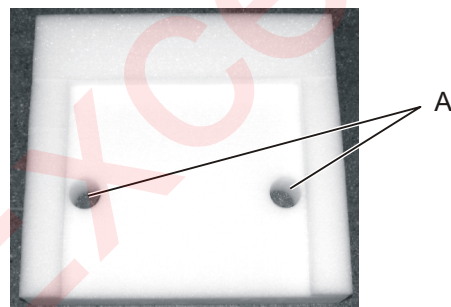

Figure 190: Shock absorbing buffers
Shock absorbing foam packaging bags are placed at all sides between the laser device and the rigid transport packaging. The base pallet has two shock absorbing buffers (see Figure 190). The laser device feet are placed in the locating holes (A). This fixing of the feet and the foam packaging bags secure the laser device in position when the rigid packaging is closed.